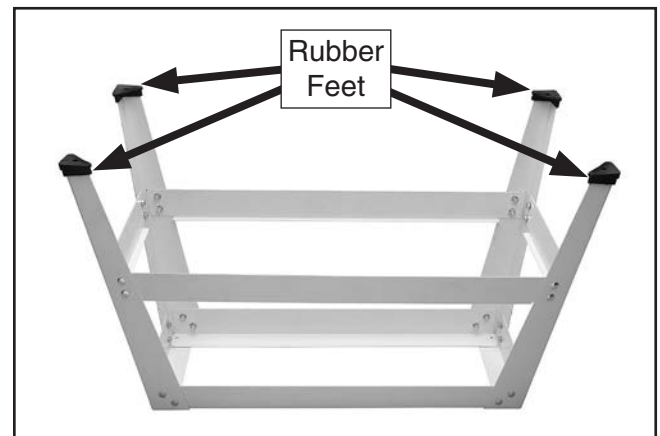

Figure 15. Rubber feet attached to ends of legs.
4. Slide (4) rubber feet (see **Figure 15**) onto ends of legs.